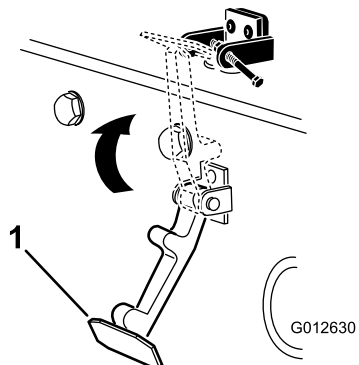

Figure 9
6. Hook the latch onto the hood latch bracket (Figure 9).